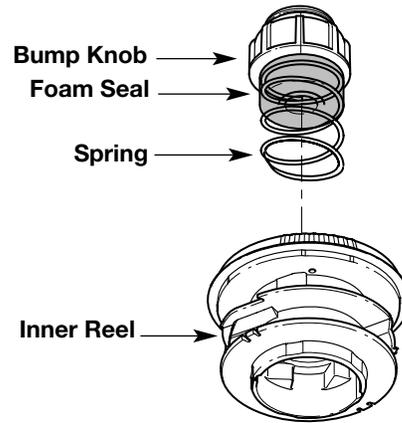

Fig. 14
- Turn the Bump Knob counterclockwise and remove the bump knob, spring, and foam seal (Fig. 14).
2. Pull out the bump knob, spring, and foam seal (Fig. 14, Pg. 9).
3. Pull the inner reel with existing line from the outer spool (Fig. 14, Pg. 9).
7. Place the bump knob, spring, and foam seal into the inner reel (Fig. 14, Pg. 9).